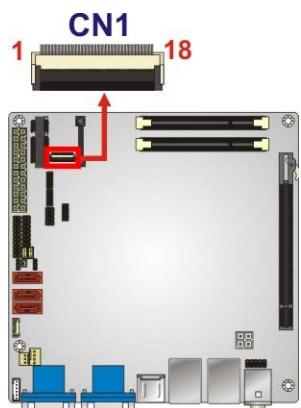

Figure 3-8: Debug Port Connector Location
**CN Location:** See **Figure 3-8**